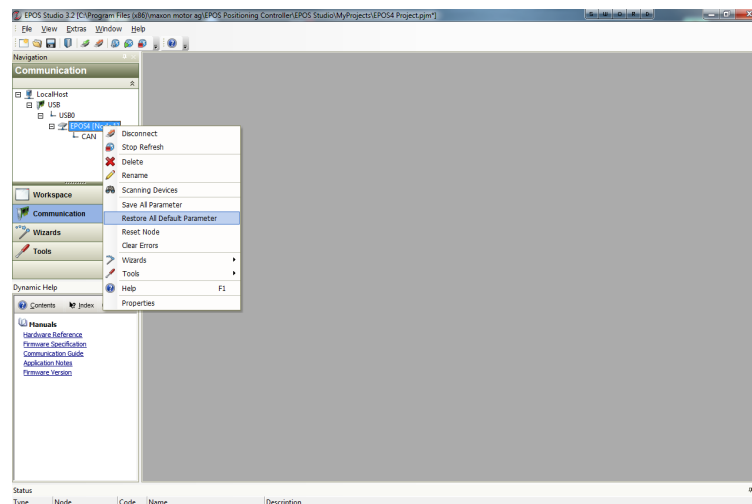

Figure 8-124 Adjustment of SSI commutation offset value | Restore all default parameters
- 6) If you are not quite sure what parameters are set, execute the command «Restore all default parameters» (→Figure 8-124) before continuing.